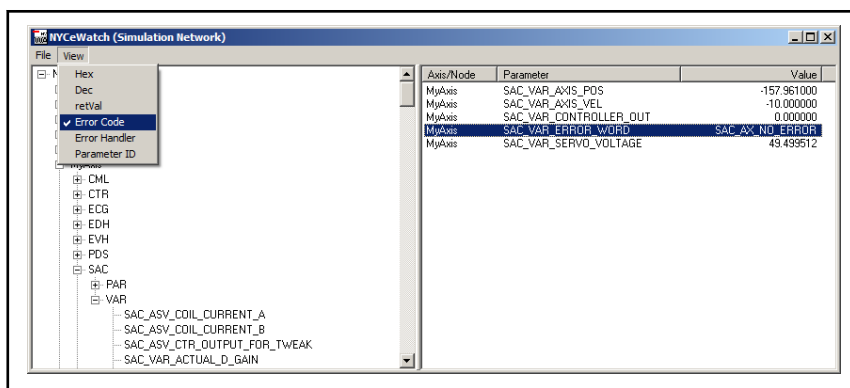

Fig. 9-2: Set the displayed data format
- In the View menu entry in the menu bar the format of the variable can be chosen. Select the parameter in the pane at the right hand side, and click "View" in the menu bar. The default is "Dec", but, for example, for the variable `SAC_VAR_ERROR_WORD` you can select the format "Error Code" to see the value of that variable in a human-readable format, see fig. 9-2 "Set the displayed data format" on page 226.